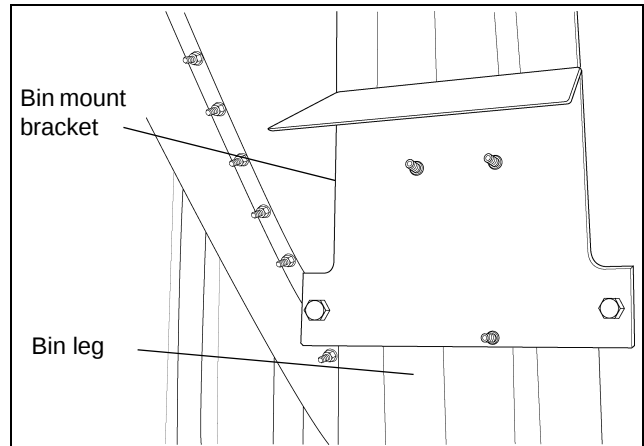

Figure 5A Bin Mount Bracket Attached to Bin Leg
- a. Take display mount and slide it around the bin leg. (*See Figure 5A.*)